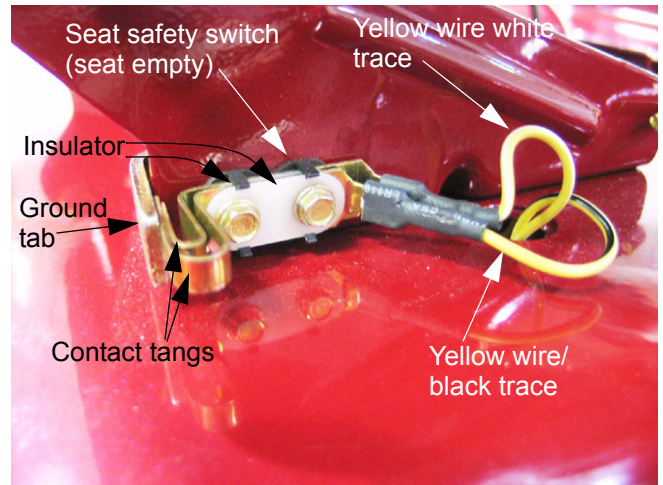

Figure 17.29
17.29. The **Seat Safety Switch** consists of a pair of simple metal contact tangs attached to the seat mounting bracket. See Figure 17.29.